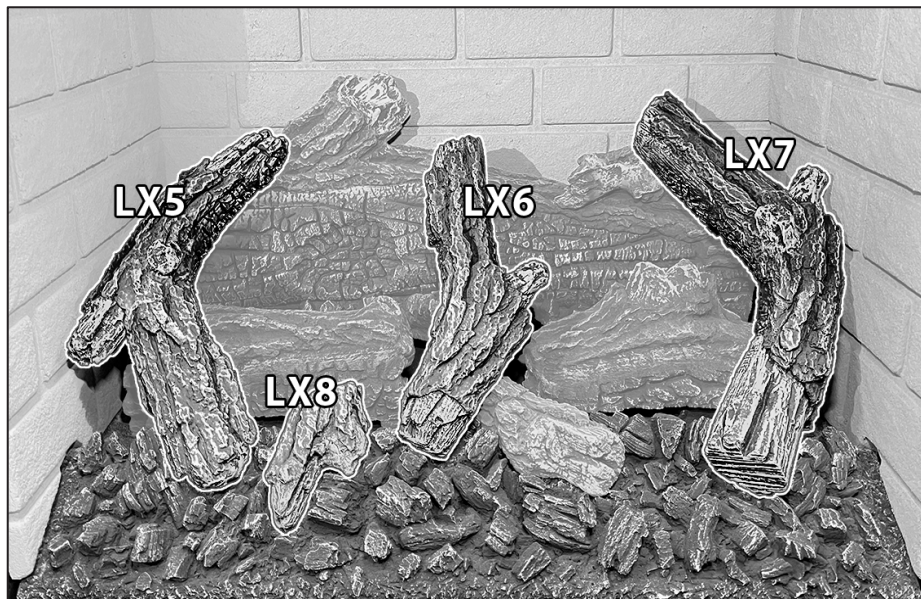

FIGURE 7.4 Completed Installation
5. Align log LX5 with the left pin in log LX1 and the notch in log LX2 and position as shown in FIGURE 7.4.
6. Align log LX6 with the pin in the middle of log LX1 and the notch in the middle of the ash panel, and position as shown in FIGURE 7.4.
7. Align log LX7 with the right pin log LX1 and the notch in the right side of the ash panel, as shown in FIGURE 7.4.
8. Align log LX8 with the notch in the ash panel, as shown in FIGURE 7.4.